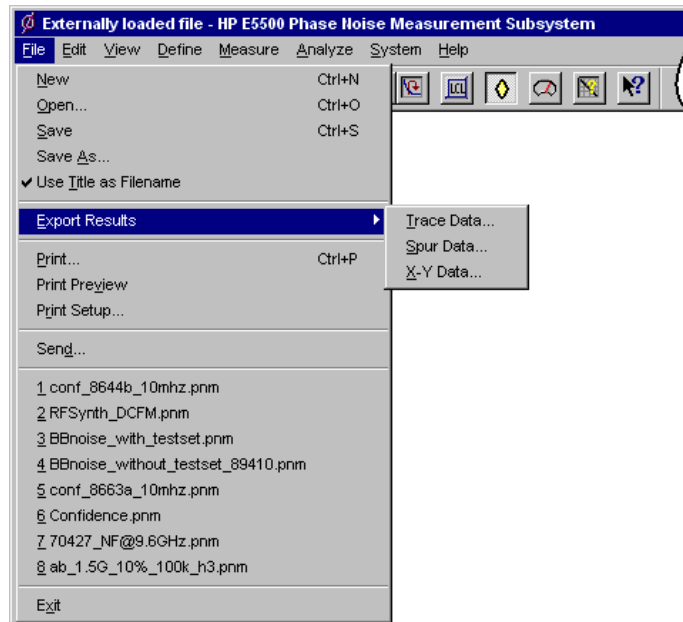

Figure 5-41 Export Results Choices
- 1 On the **File** menu, point to **Export Results**, then click on either **Trace Data**, **Spur Data**, or **X-Y Data**. See Figure 5-41.